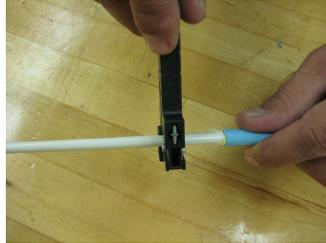

Figure 6-Scoring the central tube.
4.7 Score the tube with the Ideal coax cable stripper 45-165. Set the depth of the blade with trial pieces until the depth is suitable to score the tube without nicking the fiber (Figure 6).